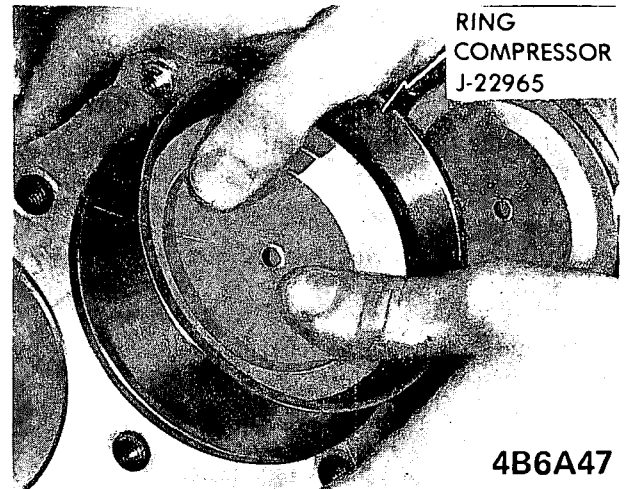

Figure 6A-93 - Installing Piston with Ring Compressor Installed (350 Shown)
13. Lubricate the piston and rings and install in bore by compressing the rings either with a "wrap around" compressor or a ring type such as shown in Figure 6A- 93.
When piston and rod assemblies are properly installed, all notches on the pistons will point towards the front of the engine and the boss on the connecting rod and caps will point towards the front of the engine for the right bank and towards the rear of the engine for the left bank. See Figures 6A-86 and 6A-87.